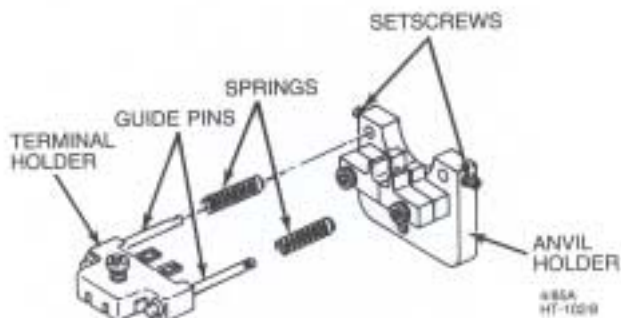

Figure 7
- 2 Loosen the two setscrews in the anvil holder and remove the terminal holder (see Figure 7).